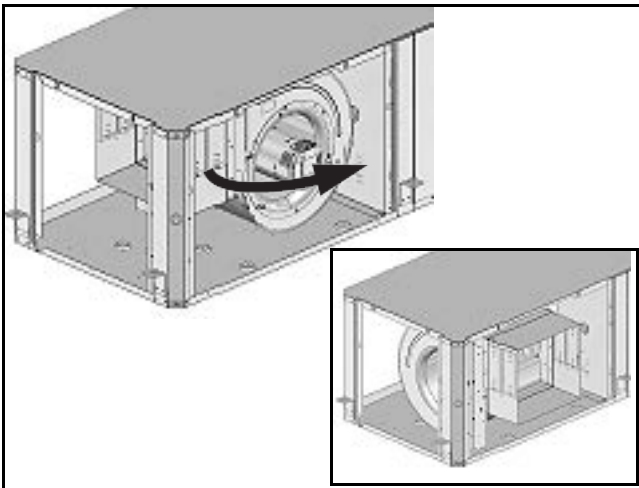

Fig. 30
7. Rotate the blower into its new position. (See Fig. 30.)